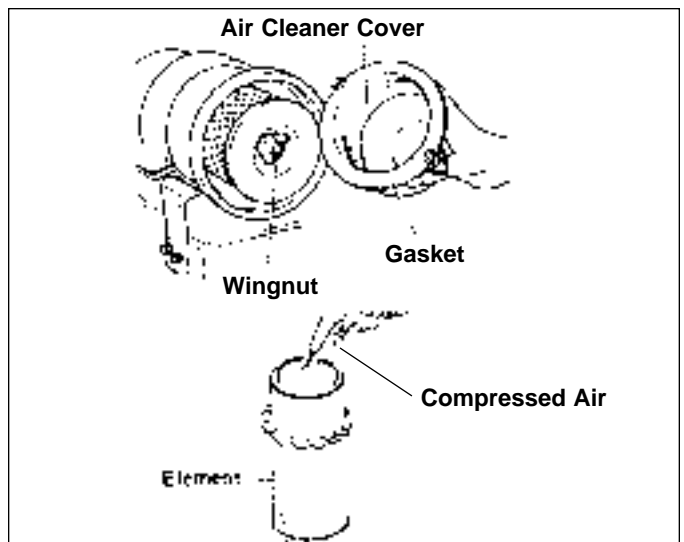

Figure 4-5. Servicing Engine Air Filter
3. Remove the wingnut (Figure 4-5) and remove air cleaner element.
4. Clean air cleaner element with compressed air (Figure 4-5) (300-450 kPa).